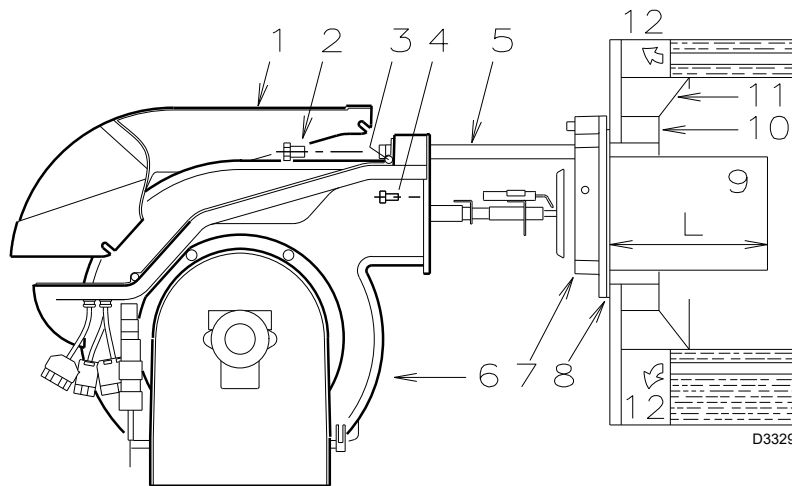

Fig. 7
For boilers having a water-cooled front the refractory fettling 10)-11)(Fig. 7) is not required unless it is expressly requested by the boiler manufacturer.
Secure flange 7)(Fig. 7) to the boiler plate interposing the supplied gasket 8)(Fig. 7). Use the 4 screws provided after having protected the thread with antiscuffing products.
- Retract the burner on its slide bars as shown in Fig. 7 page 10.